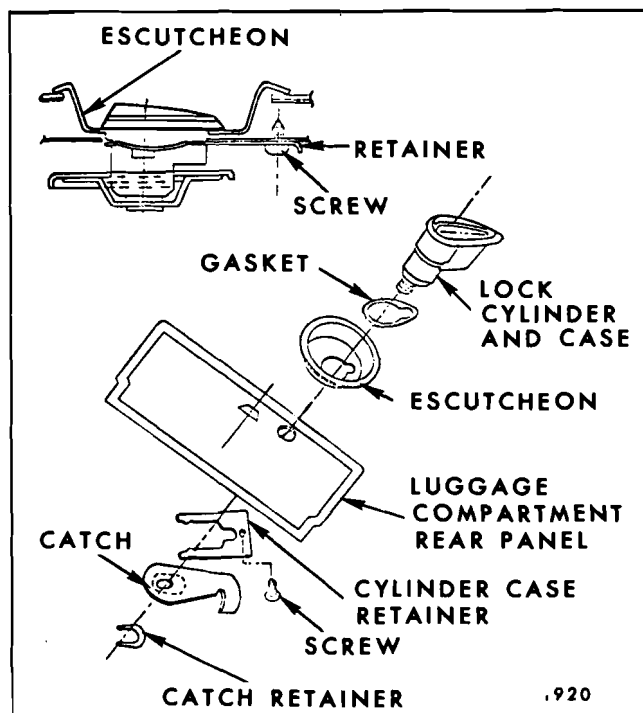

Fig. 15-80—Luggage Compartment Lock - Chevrolet "B" Styles
2. On underside of luggage compartment rear panel remove catch retainer and catch from lock cylinder case (Fig. 15-80), then turn lock
2. On underside of luggage compartment rear panel, remove catch retainer and catch (Fig. 15-80).
3. Remove lock cylinder case retainer screw and retainer (Fig. 15-80); then, remove lock cylinder and case, gasket and escutcheon from panel (Fig. 15-80).